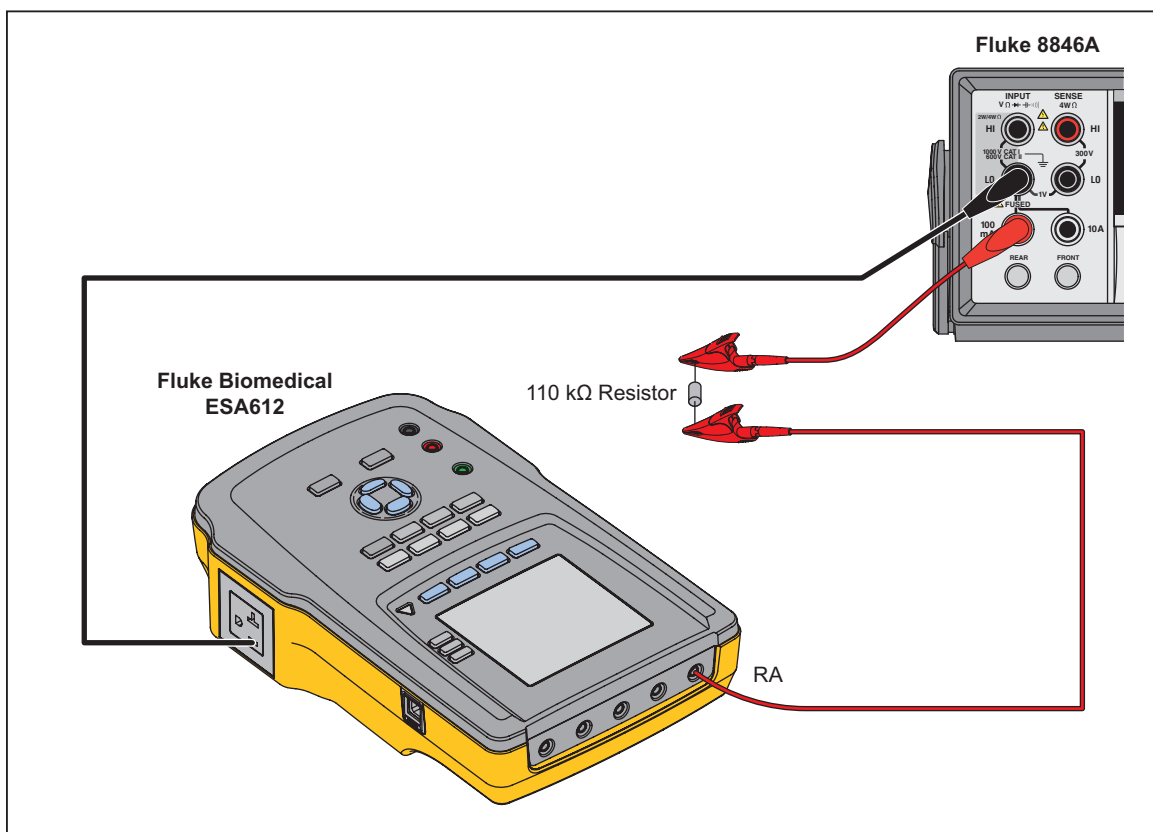

Figure 3-21. Alternative Applied Part Leakage: RA to Hot
1. Move the lead from the Red jack to the RA applied part, the other end should still be connected to the Input (-) of the DMM. The EO hot should still be connected to the 110-k Ω resistor. See Figure 3-21.